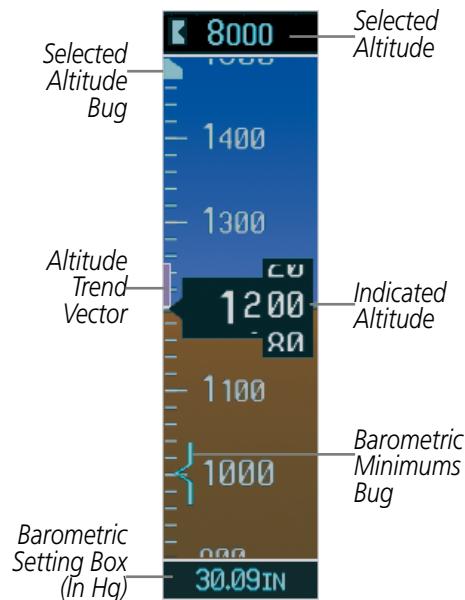

Figure 2-9 Altimeter Settings, In Hg
- 3) Press the **IN** Softkey to display the barometric pressure setting in inches of mercury (in Hg) (Figure 2-9).